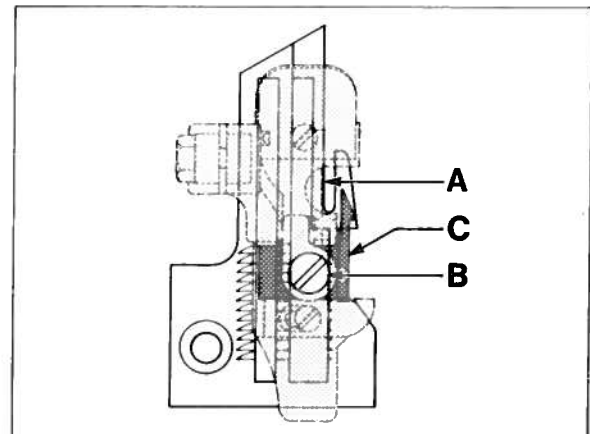
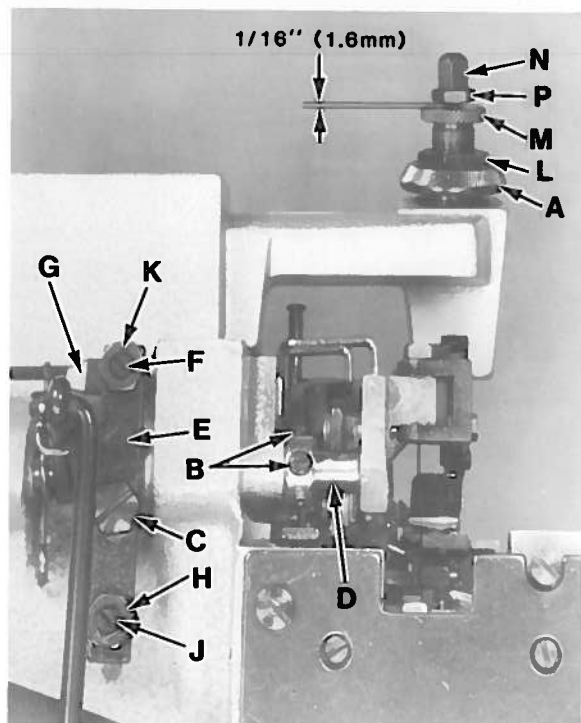

Fig. 17
Fig. 18
Right edge of presser foot must align with left edge of needle slot in throat plate as shown (Ref. Point A, Fig. 17). Presser foot must lie flat on throat plate. The adjustable stitch tongue on presser foot must center over stitch tongue of throat plate as shown in Fig. 17. If adjustment is required, lock presser foot in sewing position by release bushing (A, Fig. 18), loosen collar screws (B) and clamp screw (C), then adjust lifter lever shaft (D) left or right until the right edge of presser foot aligns with the left edge of needle slot in throat plate as shown (Ref. Point A, Fig. 17). Tighten collar screws (B, Fig. 18) and while holding lifter lever arm (E) so its stop screw (F) is against intermediate lever (G), tighten clamp screw (C). Completely unlock release bushing (A, Fig. 18).
Plunger should clear presser arm without binding. Loosen screw (B, Fig. 17) and adjust stitch tongue (C) left to right, to center over stitch tongue of throat plate as shown in Fig. 17, then tighten screw (B). A pivot type presser foot shank allows precise adjustment of presser foot, forward - rearward and flatness on throat plate for optimum feeding.
Lift presser foot to highest position and rotate handwheel in operating direction. Upper looper must not contact presser foot at any point of travel. If adjustment is required, loosen locknut (H, Fig. 18) and adjust stop screw (J) so presser foot will not interfere with upper looper, then tighten locknut (H). Loosen locknut (K) and set stop screw (F) on upper end of lifter lever arm so there is approximately 1/16 inch (1.6mm) free motion in lifter lever before presser foot starts to rise, then tighten locknut (K).
Sufficient pressure must be maintained to feed work uniformly. Excessive spring pressure will cause feeds and presser foot to wear prematurely when chaining. If adjustment is required, rotate handwheel in operating direction until both main and differential feeds are positioned below throat plate. Loosen locknut (L, Fig. 18) and turn adjusting screw (M) clockwise for more pressure or counterclockwise for less pressure, then tighten locknut (L).
Lock presser foot in position with pressure release bushing (A); loosen capnut (N) and adjust nut (P) up or down so its under surface is 1/16 inch (1.6mm) above screw (M) as shown in Fig. 18. Hold nut (P) in position and tighten capnut (N).